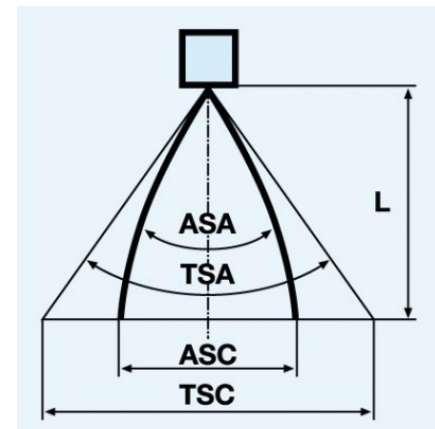

Fig. 1. Diagram Depicting the Total Spray Coverage with Key
Spray angle will be measured for each aerosol by photographing the spray pattern from the front and estimating the initial angle by measuring from the valve using a digital protractor. This initial angle will be the theoretical spray angle. Upon determining the spray angle of each product, theoretical spray coverage values are calculated using eq. (1) derived from trigonometric measurements shown in Figure 1. Similarly, actual spray angles will be calculated using eq. (2) from the measured actual spray coverages.